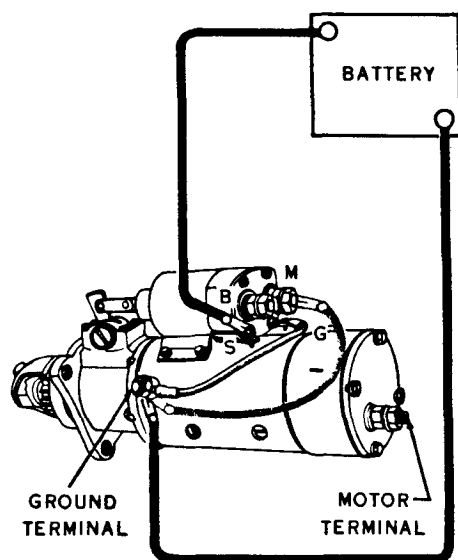

Figure 9—Shifting the drive into mesh in order to check pinion clearance.
2. Connect a battery of the same voltage as the solenoid, from the solenoid switch terminal to the solenoid frame or ground terminal (Fig. 9).